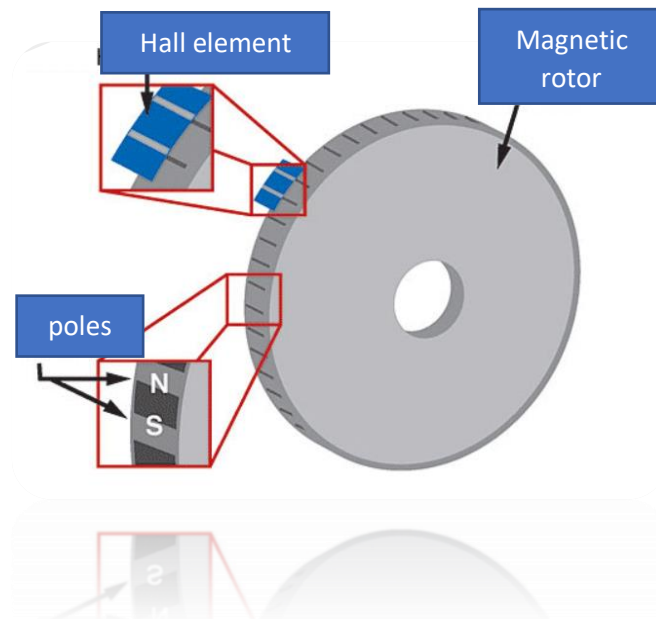

Figure 4: Magnetic Encoder
- There are 2 types of encoder types used in signal detection. One of them is the optical encoder and the other is the magnetic encoder shown in **Figure 4**. Hello 1.0 DC Motor uses magnetic encoder. Explain the working mechanism of the magnetic encoder by researching.